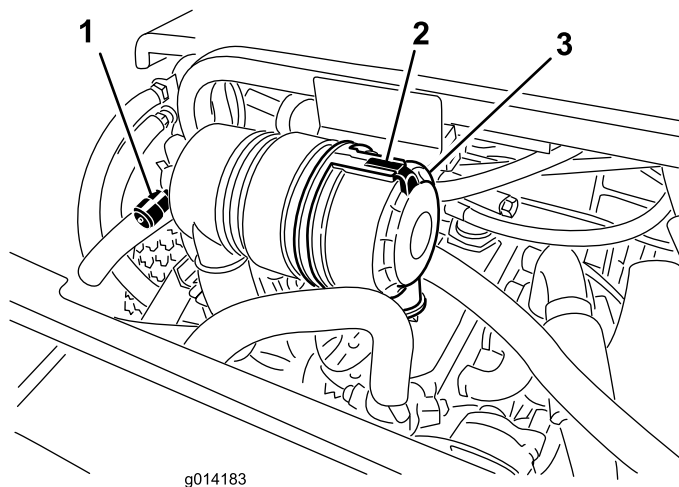

Figure 25
Service the air cleaner filter only when the service indicator (Figure 25) requires it. Changing the air filter before it is necessary only increases the chance of dirt entering the engine when the filter is removed.
1. Release the latch securing the air cleaner cover to the air cleaner body (Figure 25).